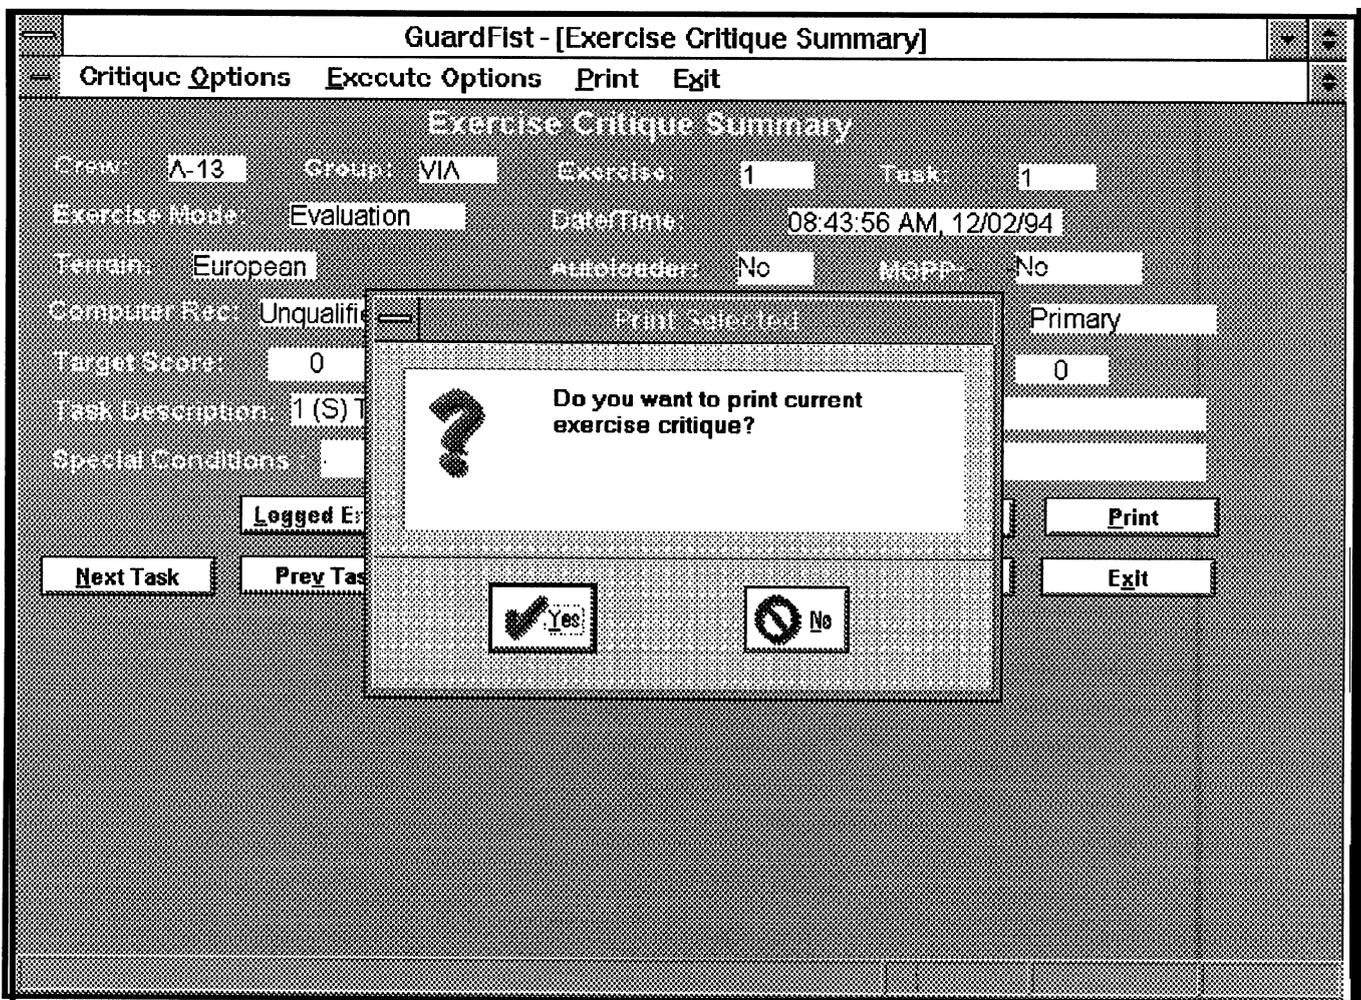

Figure 2-120. Print Selected Screen
- a. At the Exercise Critique **Summary** Screen, click on the Print button or select Print from the menu bar. The Print Selected Screen, Figure 2-120, displays.